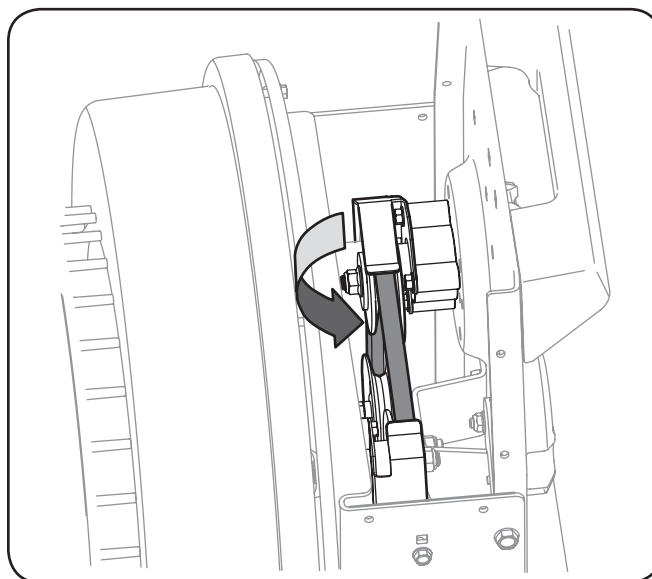

Figure 5-2
3. Carefully work the belt off of the engine drive pulley as shown in Figure 5-2.